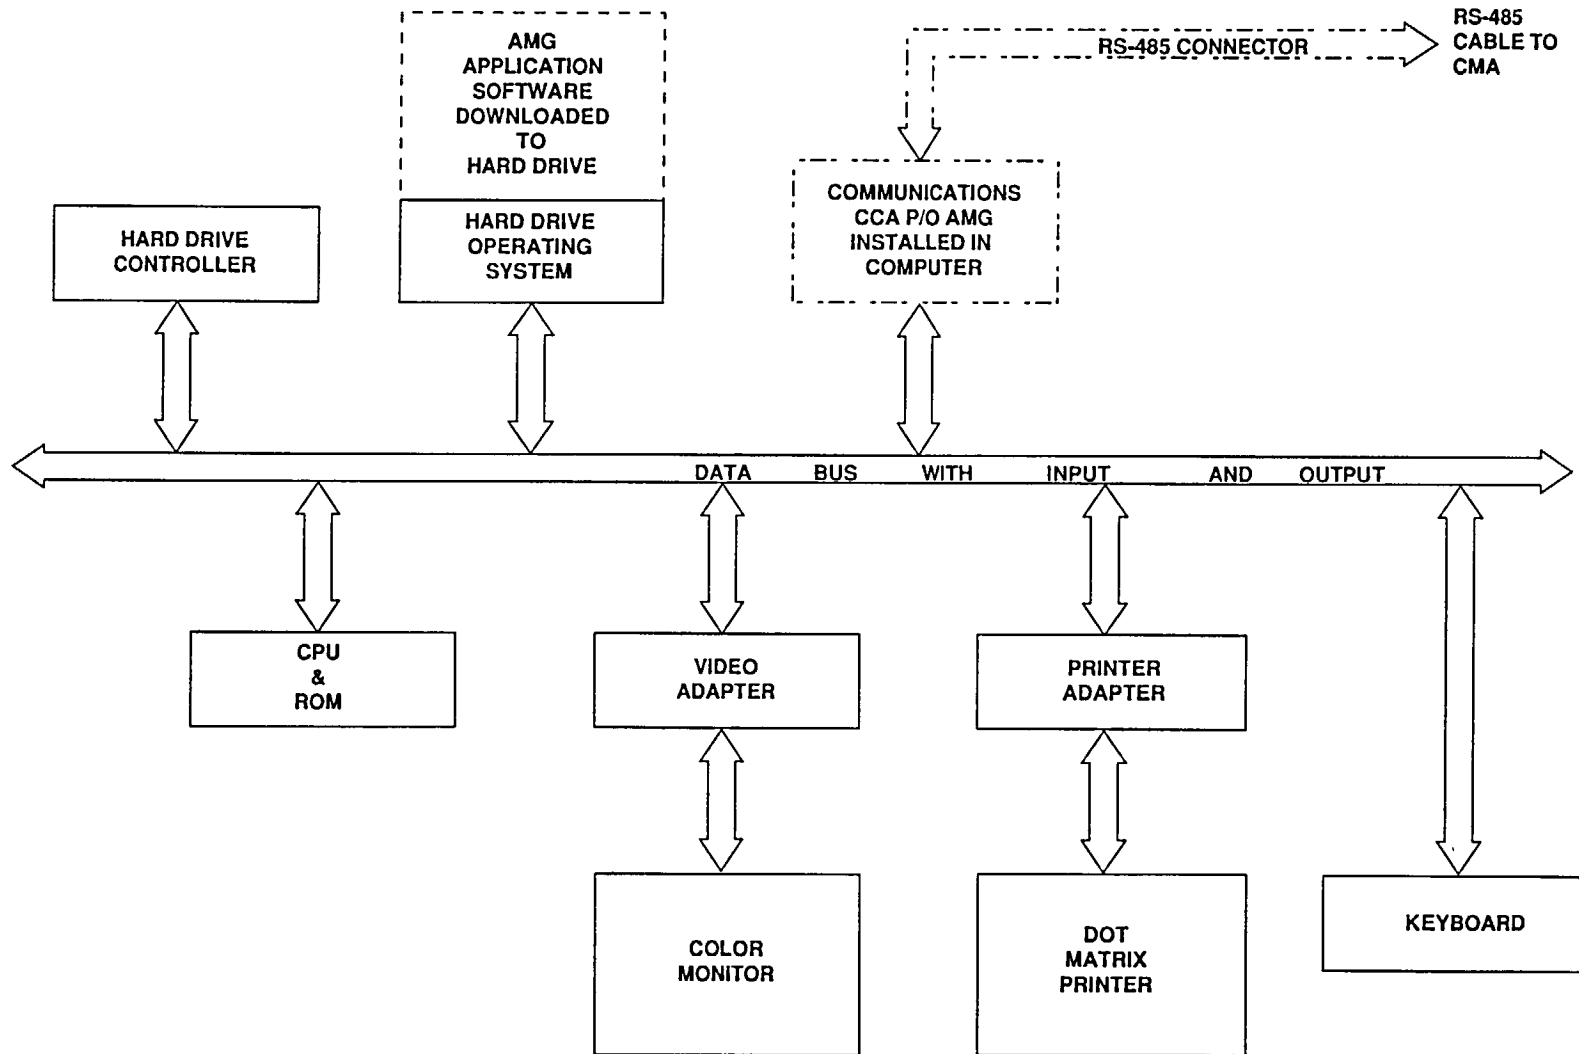

Figure 1-7. Computer Functional Block Diagram (Typical).
**1.13.5 IBM-PC/AT Compatible Computer Functional Description.** The computer (figure 1-7) consists of a personal computer, monitor, printer, and operating software. The computer uses a data bus to interface computer components. The data bus is controlled by Basic Input/Output System (BIOS) stored in Read Only Memory (ROM), the operating system installed on the hard drive, and the CPU of the computer. The Communications CCA and application software provided with the AMG are installed in the computer. When the AMG application software is copied to the hard drive of the computer, the autoexec.bat file is updated to load the application software. When the computer is powered on, the autoexec.bat file instructs the computer to load the application software. This causes the computer to automatically start the application software. The application software displays an initialization screen for a few seconds and then displays an operational screen. The application software also takes control of the computer and disables unwanted keys of the computer keyboard and unwanted functions of the operating system. It assigns designated controls to the function keys and assigns designated tasks to selected keys. The applications software instructs the computer to send poll requests to the CPUs located in the CMA and to receive and process the data from the CPUs.